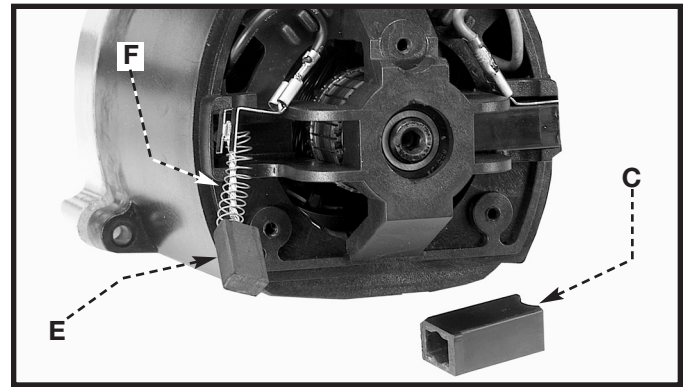

Fig. 56
3. Inspect the brush (E) Fig. 56 that was removed from the holder (C). When the carbon on either brush (E) is worn to 3/16" or if either spring (F) or shunt wire is burned or damaged in any way, replace both brushes. If the brushes are serviceable after removing, reinstall them in the same position.